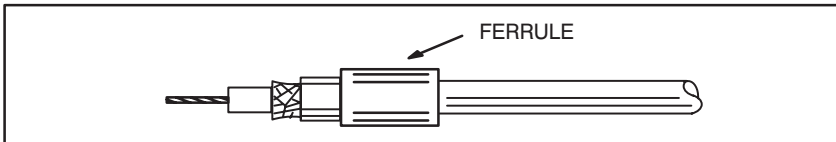

Figure 3.8 - Ferrule on the RG-59/U Cable
- Step 1. After the cables have been installed in the conduit or cable trays, slide the ferrule from the plug connector onto the coaxial cable as shown in figure 3.8.